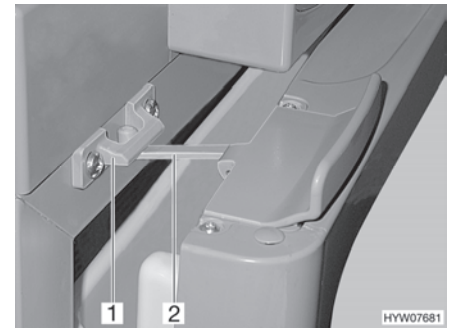

Fig. 125 Refrigerator door in ventilation position (Thetford)
- Open the lock (Fig. 125,2) and snap it into the locking catch (Fig. 125,1). The refrigerator door will then stay slightly open.